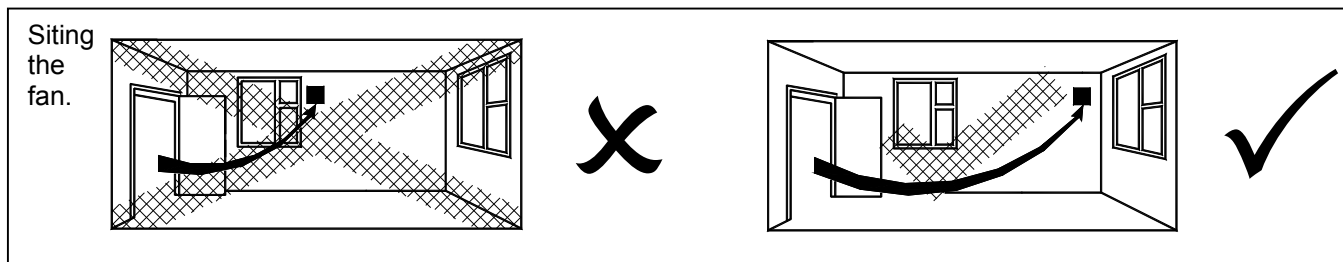

Fig.1 (Solo Pro)
1. Select and follow the appropriate wiring diagram. (Fig. 1, 2 or 3)